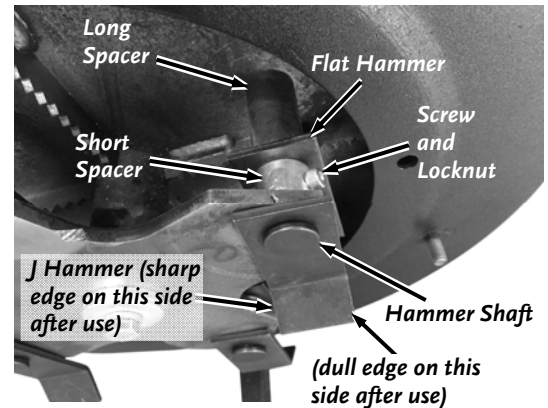

Figure 26
2. Use a 5/32" Allen Wrench and a 3/8" Wrench to remove the Screw and Locknut from one of the Short Spacers (**Figure 26**).